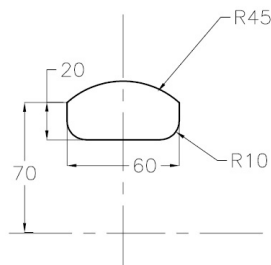

Figure 8-164c Dimensions of Section 2
5. Draw the sketch for Section 2 on the XY plane. Dimension it with respect to the origin (0,0,0). Refer to Figure 8-164c for the dimensions of Section 2.